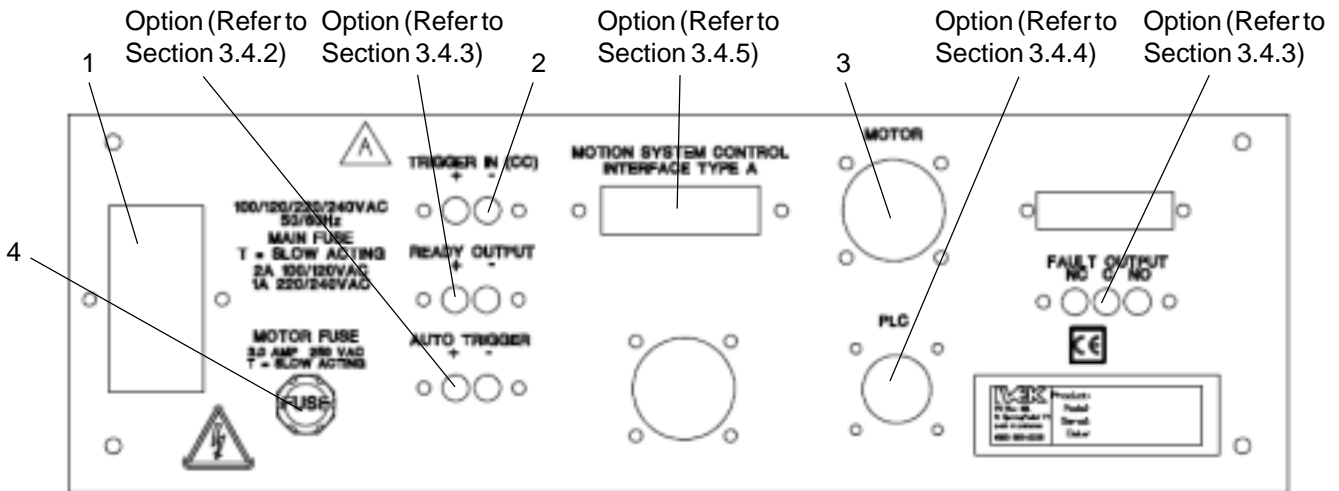

Figure 3.2 Digispense 10-7 Controller Module Rear Panel
3.1.2 Rear Panel Detail (Figure 3.2)
3.1.2.1 Power Entry Module (Figure 3.2 Item 1)
3.1.2.2 TRIGGER IN Terminal Strip (Figure 3.2 Item 2)
3.1.2.3 Motor Cable Connector (Figure 3.2 Item 3)
3.1.2.4 Motor Fuse (Figure 3.2 Item 4)